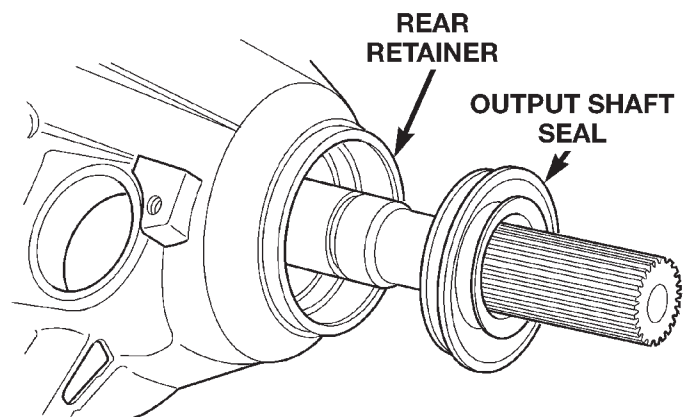

Fig. 8 Rear Seal Removal
(4) Remove rear seal from retainer (Fig. 8). Use pry tool, or collapse seal with punch to remove it.